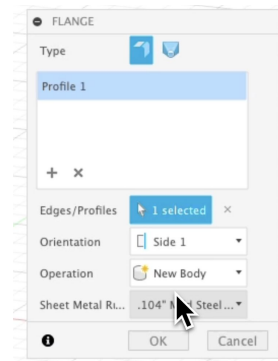

Figure 1.2
- Choose the **profile** and adjust the dialog box to define the flange **orientation** (Side 1, Side 2, or Center) and select **Sheet Metal Rules** (see Figure 1.2). **Note:** For consistency, most designers stick with Side 1 orientation.